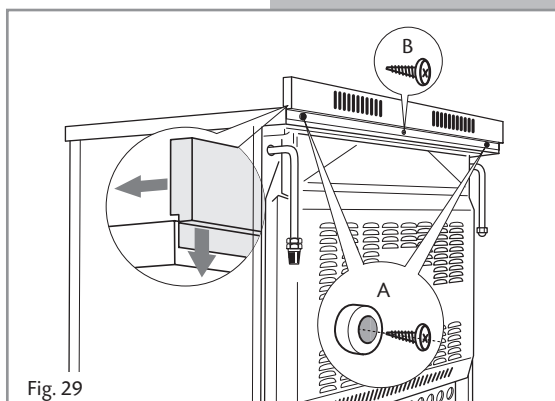

Fig. 29
- Assemble the backguard as shown in figure 29 and fix it by screwing the central screw "B" and the spacers "A".